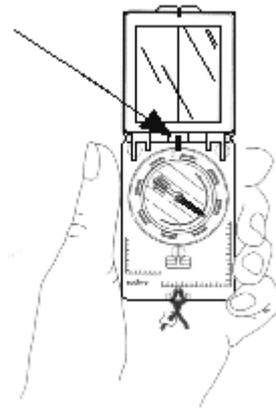

Figure 24 Reading Line
2. Rotate the capsule until the scale ring is at 180° (south). See the reading line on Figure 24 on page 39. When you are in the southern hemisphere, you should determine north (compass bearing is 0°) to align TACMET MAWS.